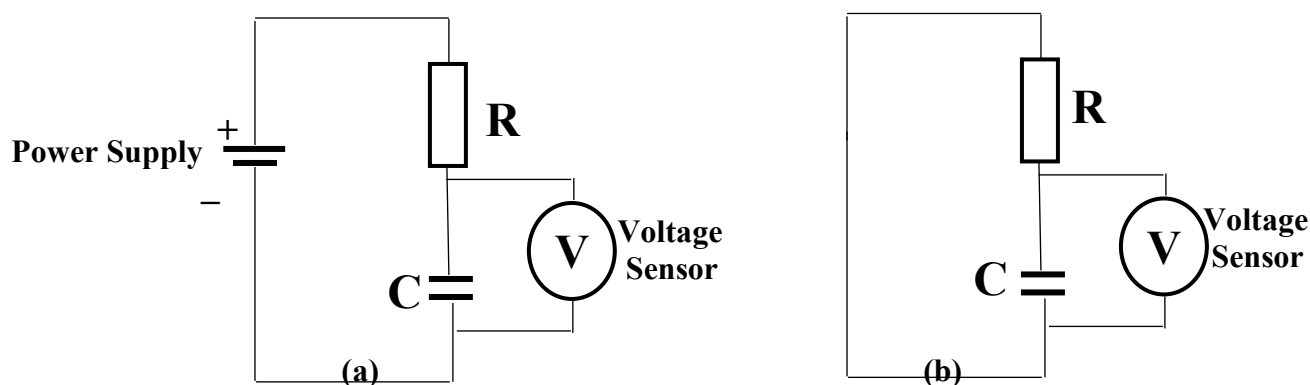

Figure 2. Schematic diagram of RC circuit for (a) charging and (b) discharging of the capacitor
3. Construct the circuit shown in Figure 2(a) with Voltage Sensor connected across the capacitor.
10. Simultaneously connect the banana connectors (which used to be plugged into the power supply) and start recording. This is equivalent to Figure 2(b). You should see the voltage start between 1 and 4 V, and decrease toward zero.